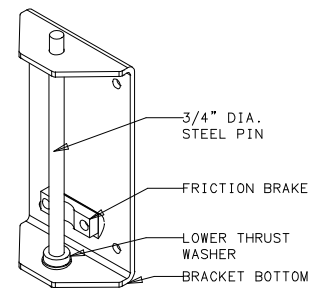

Figure 6
2. Take the mounting plate and remove the steel pivot rod by removing the small bolt and nut on the bottom of the rod. Please note that the mounting plate has a brown friction pad. This pad will assist you in telling top from bottom of the mounting plate. The friction pad and rod with bolt is the bottom of the bracket. Be sure to mount bracket as such. See figure 6.
4. Mount the first half of the boom arm with the groove on the bottom to the wall bracket. You should have noticed a flat and a thick steel thrust washer on the steel pivot rod when you removed the rod from the wall bracket. Be sure these thrust washers are installed on the underside of the boom. See figure 6. Slide pivot rod into the top of the mounting bracket and into the bearing on the boom and through the thrust washers and into the bottom of the mounting bracket. The rod has flat sides and the mounting bracket has matching flat sides. Be sure the rod slips completely into the flat sides. Install the small bolts and nuts and tighten snugly.